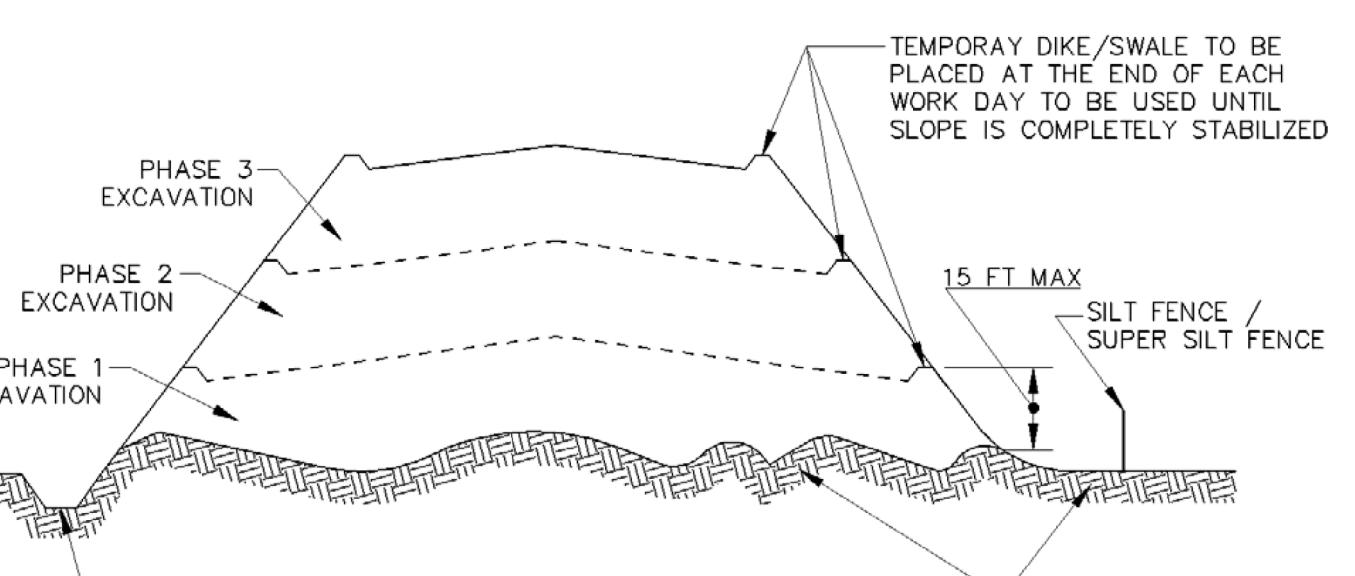

Figure B-2: Incremental Stabilization - Fill
4. Construction sequence example (Refer to Figure B-2):